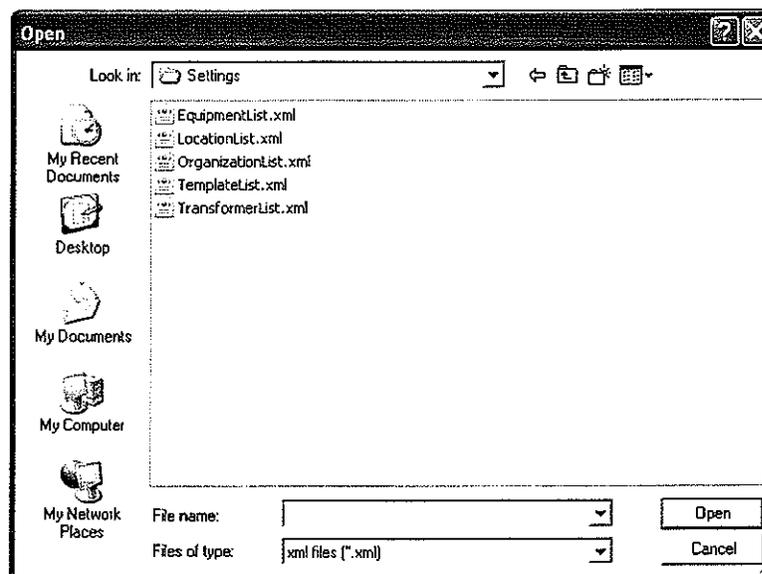

Figure 2.37 Open Dialog Box
- For Template File, the Open dialog box appears (Figure 2.37).